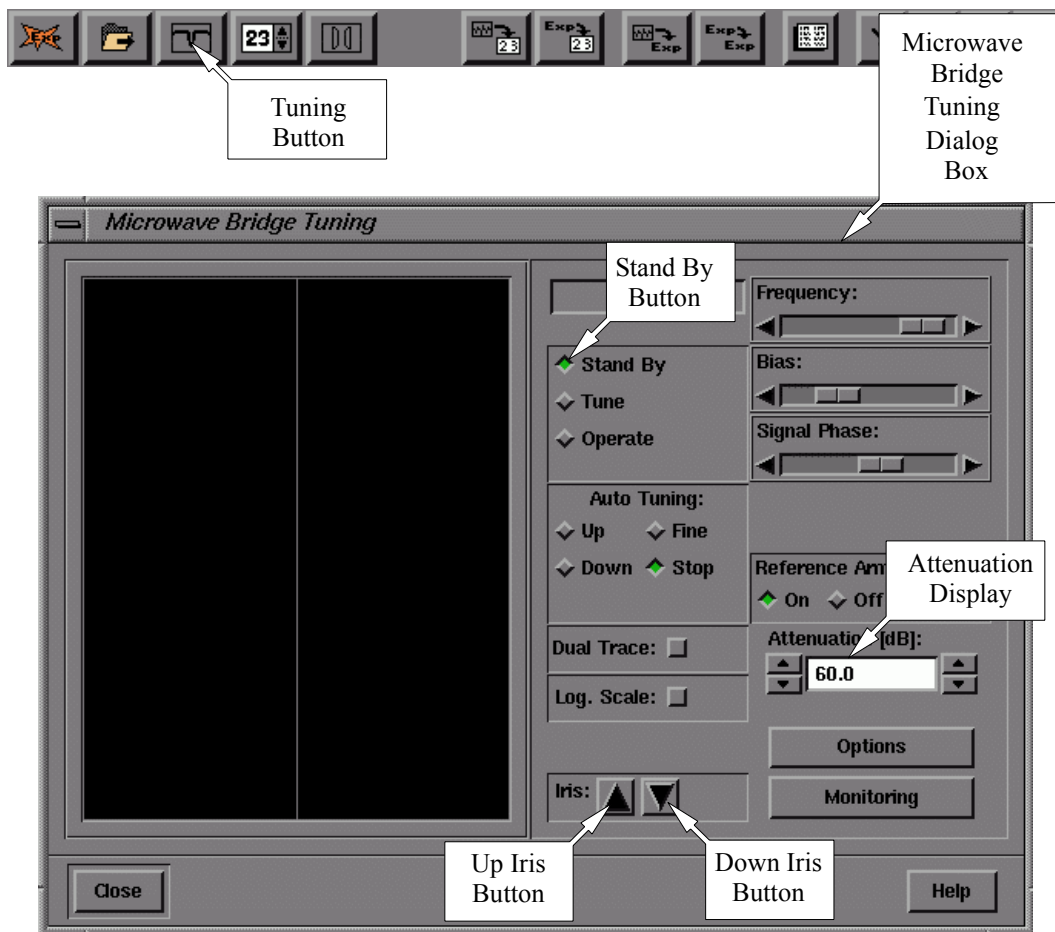

Figure 7-10 The Microwave Bridge Tuning dialog box.
6. **Open the Microwave Bridge Tuning dialog box.** If this window is not already open, click its button in the monitoring panel. The button toggles the dialog box open and closed. The Microwave Bridge Tuning dialog box will then appear. (See Figure 7-10.)
7. **Switch the microwave bridge to Stand By mode.** (See Figure 7-10.) Click the Stand By button in the dialog box to change to the Stand By mode.
The procedure here is like Step 12, performed in reverse. Reposition the iris screw motor. Screw the lock nut on the iris screw. Click and hold the up iris button in the **Microwave Bridge Tuning** dialog box (See Figure 7-10.) until the iris screw is approximately 0.5 to 1 cm. above the top surface of the cavity body.